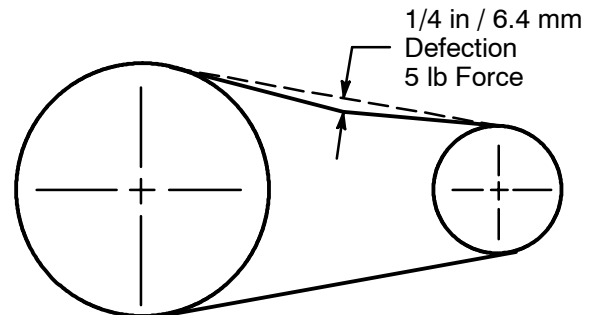
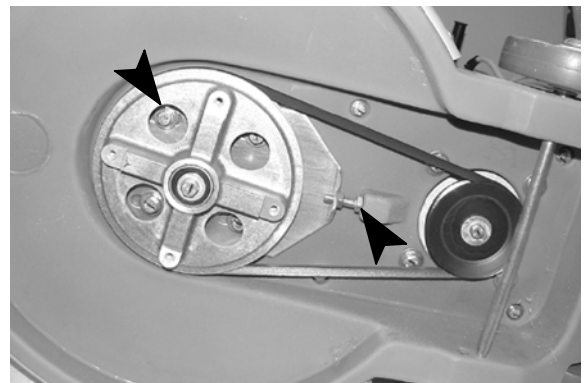

FIG. 7
FIG. 8
- Once a month, check the tension of the drive belt. At mid-point of belt, the belt tension should have a 1/4 in / 6.4 mm deflection at 5 lb of force (Figure 7). To tighten belt, remove the pad driver and loosen the (4) pad driver pulley bracket hex head screws. Loosen the jam nut on the tension bolt and turn bolt clockwise until belt is properly adjusted, then retighten the pulley bracket screws and jam nut (Figure 8).